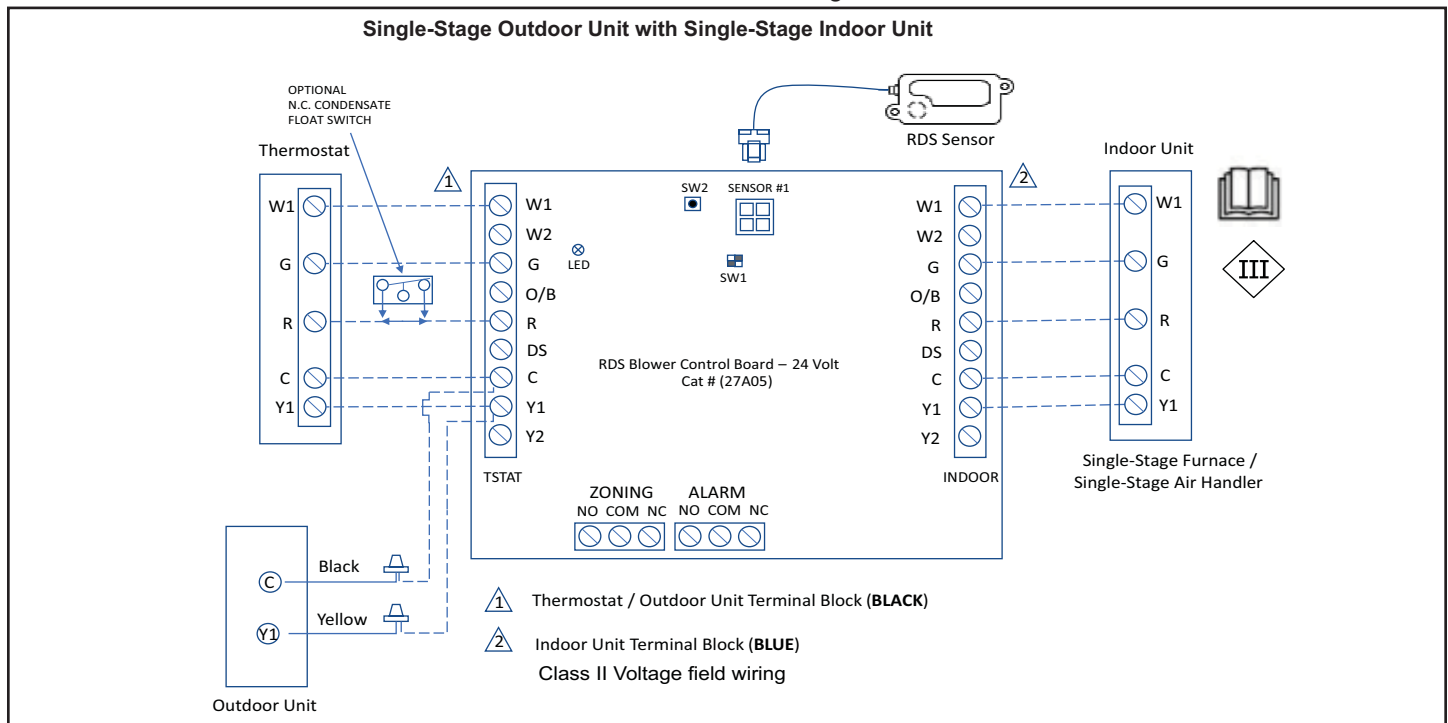

FIGURE 14
5. Install low voltage wiring as shown in Figure 14.